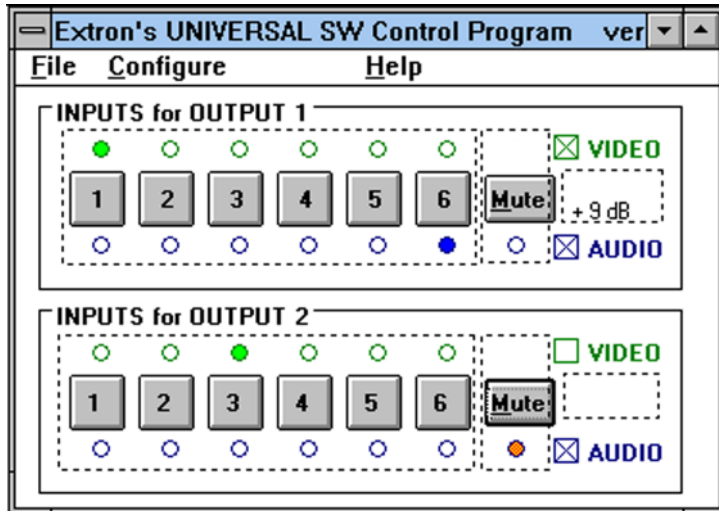

Figure 4-3 — Universal Switcher Control Program window
- The Extron Universal Switcher Control Program window (figure 4-3) displays the selected inputs for each output and the audio gain for the selected audio inputs.
Switching is accomplished from within the Universal Switcher Control Program by selecting which input to tie to one or both outputs (see figure 4-3). The top row of inputs is available for output 1 and the bottom row of inputs is available for output 2. The same input can be routed to both outputs, but an output can only be tied to a single input.
- Click on the **MUTE** button for the selected output(s) on the Universal Switcher Control Program main window (figure 4-3). An associated orange indicator will "light" to indicate that the audio and/or video output is muted.
- From the Universal Switcher Control Program main window (figure 4-3) click on Configure.
1. From the Universal Switcher Control Program main window (figure 4-3) click Configure.
5. To disable Executive mode, access the Universal Switcher Control Program and click on the **Normal** button. The Universal Switcher Control Program normal window (figure 4-3) is displayed and Normal mode is enabled.
1. From the menu bar at the top of the the Universal Switcher Control Program main window (figure 4-3) click on File.